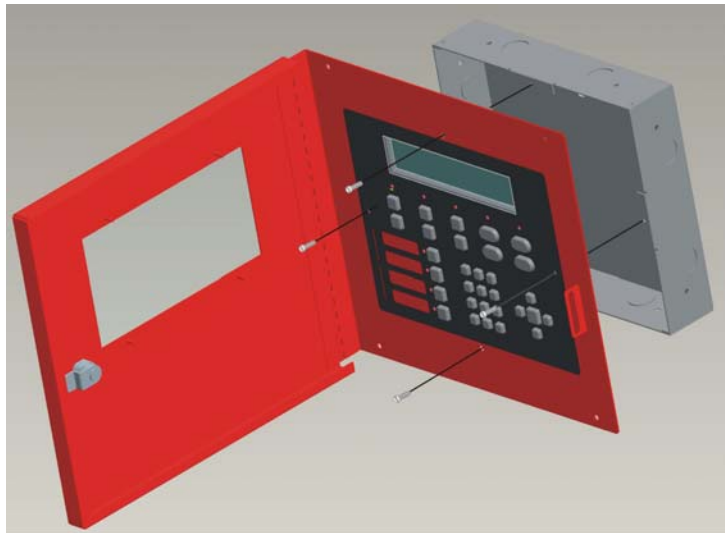

Figure 4-25 Attaching Annunciator / Door Assembly to Backbox
4. Attach the annunciator and door assembly to back box as shown in Figure 4-25 using the supplied screws.